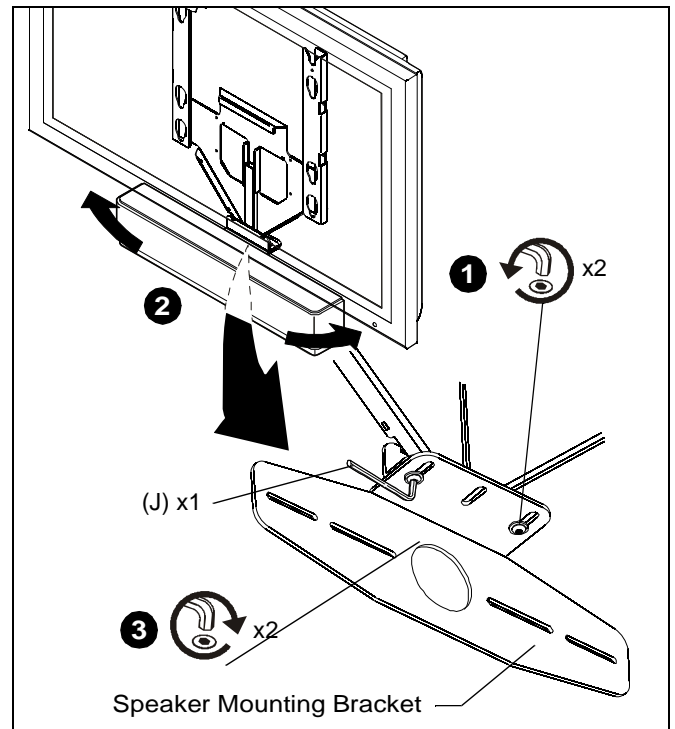

Figure 8
1. Loosen two button head cap screws securing speaker mounting bracket to speaker vertical adjustment bracket using 1/8" hex wrench (J) provided. (See Figure 8)
3. Tighten two button head cap screws securing speaker mounting bracket to speaker vertical adjustment bracket using 1/8" hex wrench (J) provided. (See Figure 8)